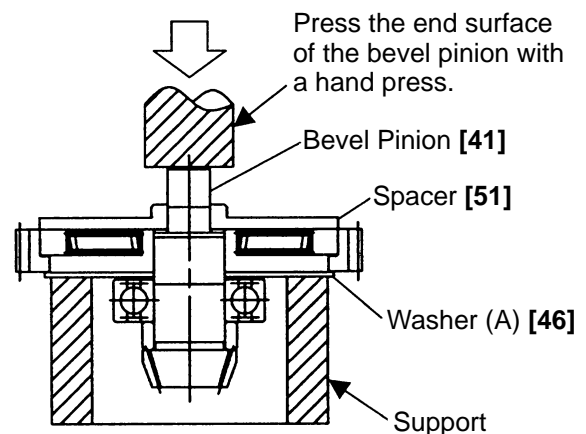

Fig. 13
(5) Disassembly of the slip clutch
Remove the Ball Bearing 629VVC2PS2L [52] with a bearing puller. Place the assembly on a sleeve-type support facing Washer (A) [46] downward as shown in Fig. 13. Push the Spacer [51] side of the Bevel Pinion [41] with a hand press to remove the Gear Holder [47] and the Spacer [51] from the Bevel Pinion [41]. Before removal of the Second Gear [50] from the Gear Holder [47], put the assembly in a poly bag and disassemble it inside the poly bag to prevent missing of Spring (C) [48] and the Needle [49].